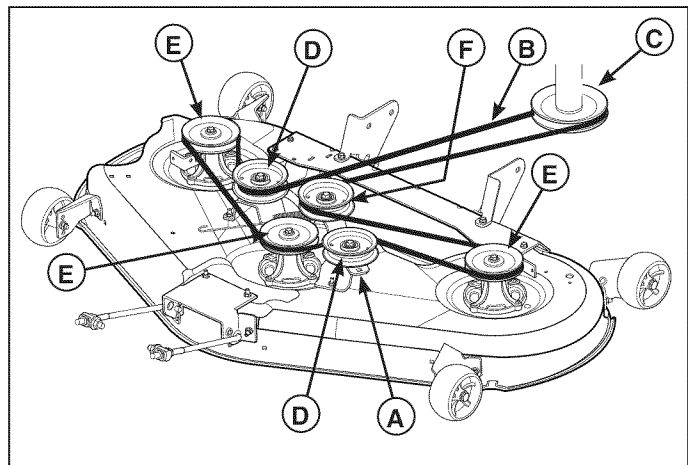

Figure 16. Mower Belt Routing
3. Pull back on the tensioning idler (**F**, Figure 16) in the direction indicated by the arrow, and remove the mower belt from the PTO pulley (**C**).
6. Pull back on the tensioning idler (D, Figure 16) in the direction indicated, and install the belt onto the PTO pulley as shown in Figure 16.